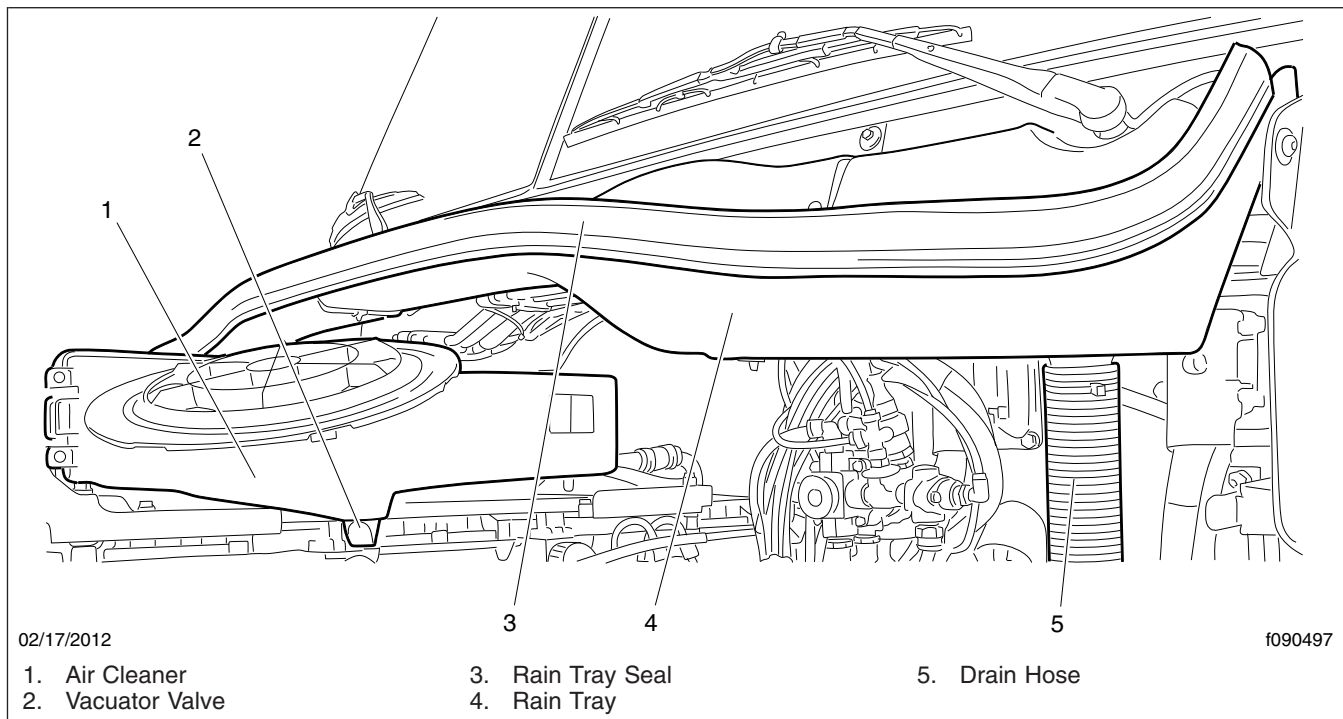
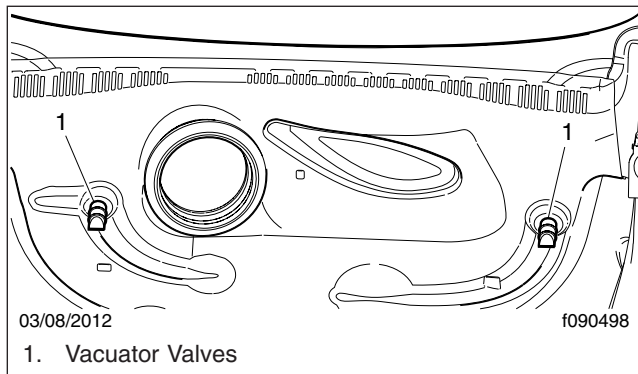

Fig. 20.8, Rain Tray Assembly
Fig. 20.9, Hood Interior
- 3.1 Inspect the vacuator valve(s) installed on the hood interior and air cleaner. Make sure the lips of each valve are undamaged and pliable, free of debris, and remain closed during inspection. See **Fig. 20.8** and **Fig. 20.9**.